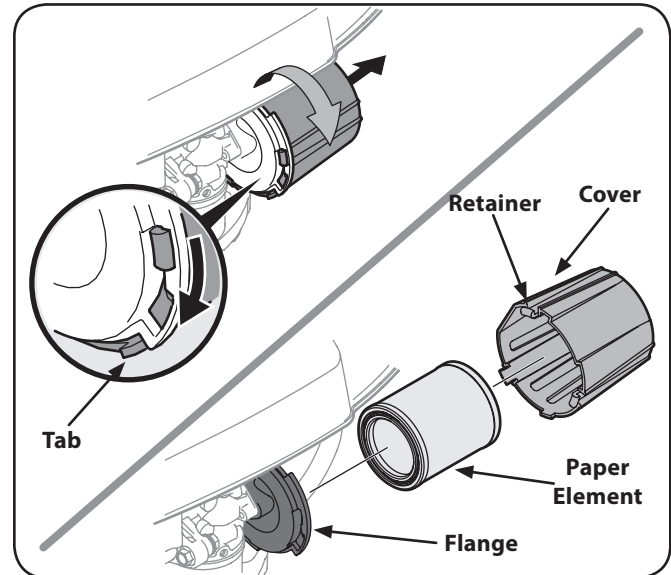

Figure 6-2
1. Turn cover to left (counterclockwise) and remove it and paper element from flange. See Figure 6-2.